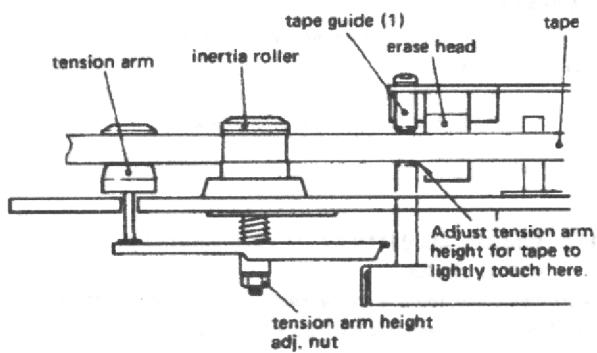

Fig. 2-21 Tension arm height adjustment
1. Running a TEAC YTT-8013 test tape (thickness = 35μm) in the forward direction, adjust the height of the left tension arm so that the lower edge of the tape is just touching the lower edge of the tape guide (1). See Fig. 2-21. Also refer to 2-10 TENSION ARM HEIGHT ADJUSTMENT".
2. Adjust the height of the tape guide (2) so that the upper edge of the tape is in contact with the upper edge of the tape guide.
4. Apply locking paint to the height adjusting nut of the tape guide (2).
5. During reverse play, adjust height of tape guides (3) and (4) in the same way as steps 1 ~ 4. For tape guide (4), adjust right tension arm height.